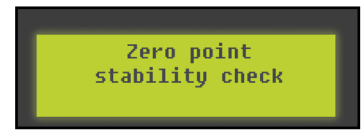

Fig.28
6. LCD display will read "Zero Point stability check" (Fig.28).